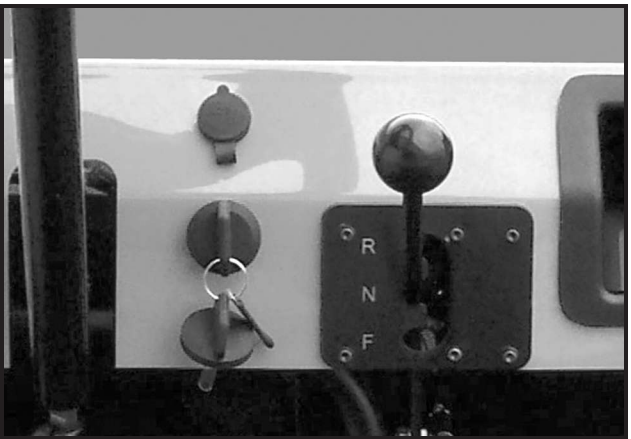

Figure 3 Key Switch / Accessory Outlet / Transmission Gear Shift Lever
The key switch is mounted on the dash to the right of the steering column (**Figure 3**). To start the vehicle, place the Transmission Gear Shift Lever in the NEUTRAL position and turn the key clockwise and hold until the engine is running smoothly. Release the key and the engine should idle. The engine will continue to idle until the key is turned counterclockwise.
The Transmission Gear Shift Lever is located on the dash (**Figure 3**). The lever has three distinct positions: **F** (FORWARD), **N** (NEUTRAL), and **R** (REVERSE). Pull handle downward (F) to operate the vehicle in the forward direction, or upward (R) to operate the vehicle in reverse. The engine must be at idle before shifting the Transmission Gear Shift Lever. **See WARNING and CAUTION below.**